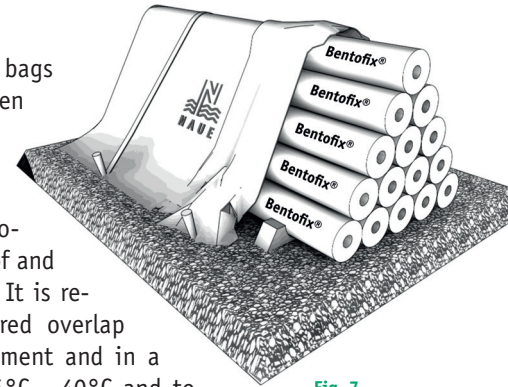

Fig. 7
9.4 Bentofix® GCLs can be stacked up to five rolls high if stored on site (fig. 7). It must be ensured that rolls cannot move at any time once stacked and stored. If rolls need to be stacked higher please contact NAUE or their representative.